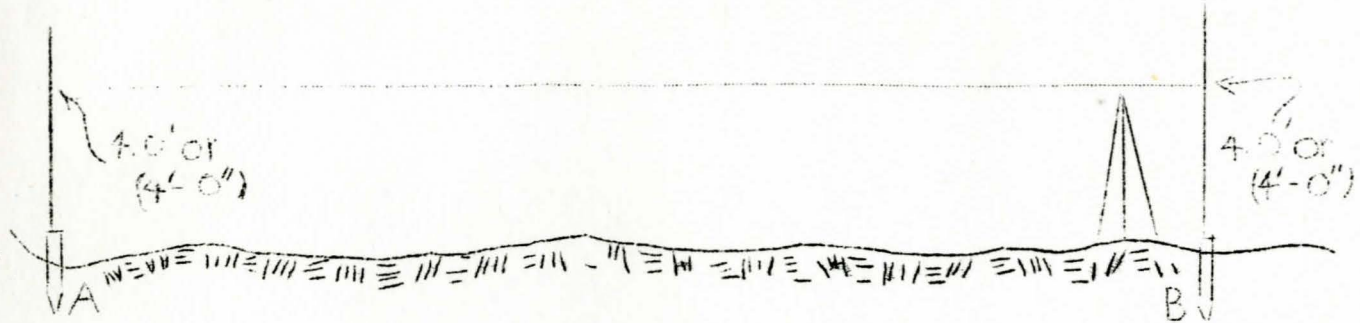

FIG. NO. 2
5. Next the rodman proceeds to Stake "A" where the rod reading is again noted. The reading on the rod at Stake "A" should be the same as the reading on "B" if the instrument is in adjustment. For example see Figure No. 2. The reading on Stake "B" and "A" was 4.0 feet, thus indicating that the instrument is in adjustment.